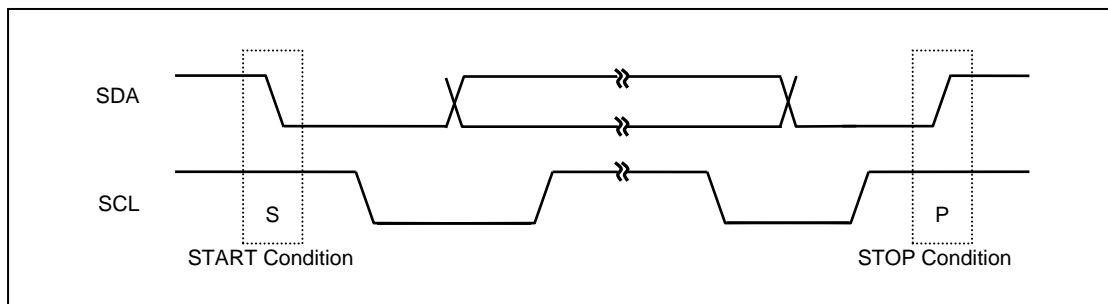

Figure 14.7 START and STOP Condition
Within the procedure of the I²C-bus, unique situations arise which are defined as START(S) and STOP(P) conditions; see Figure 14.7.